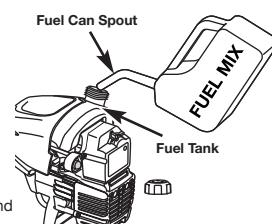

Fig. 4
- Place the gas container's spout into the fill hole on the fuel tank (Fig. 4) and fill the tank.